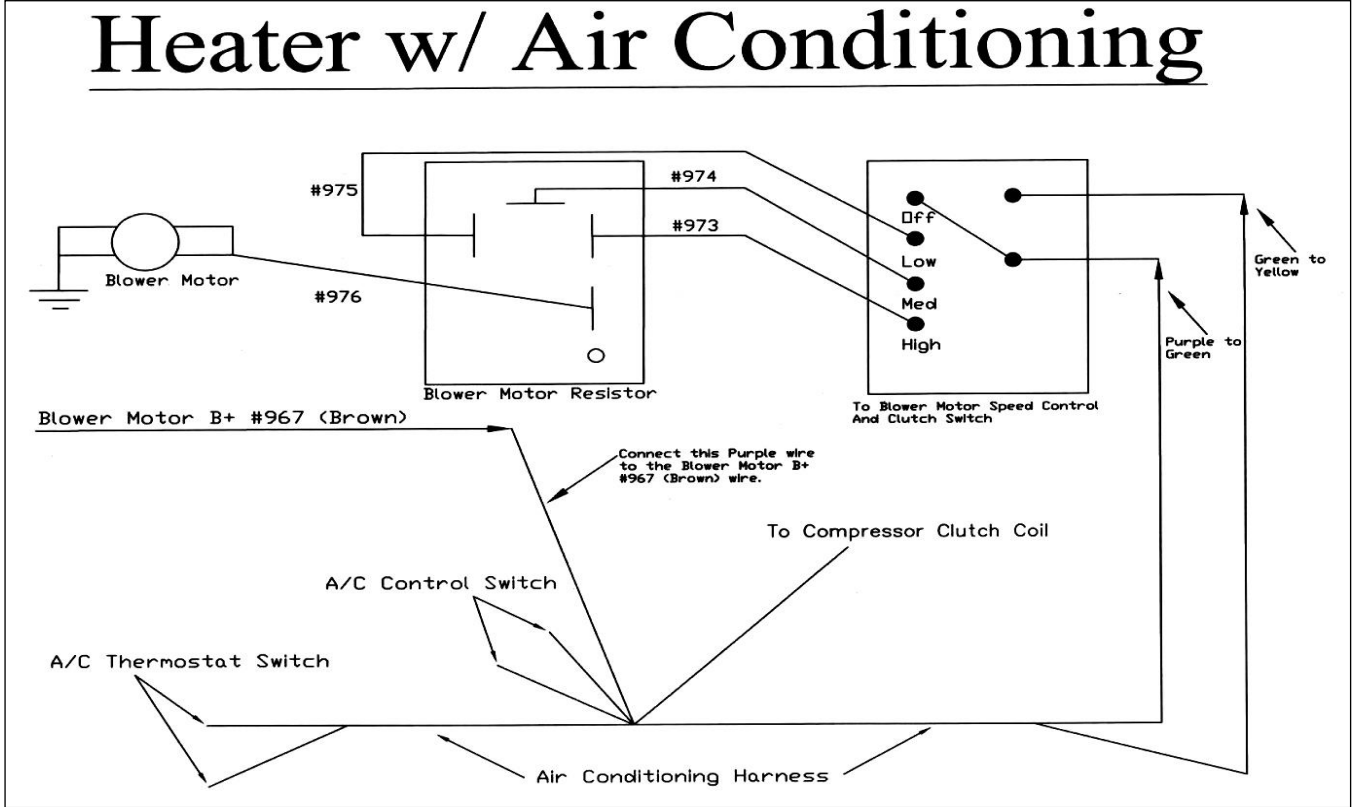

Figure 7-20 Heater with Air Conditioning
7.11.2 On all Mustangs equipped with add-on or factory Air Conditioning the included A/C Harness must be installed. **See Figure 7-20.**
7.11.3 **Figure 7-20** has both the Air Conditioning control harness and the Blower Motor wiring. Be sure to read the wire identification on each wire and connect the wires to the correct components.